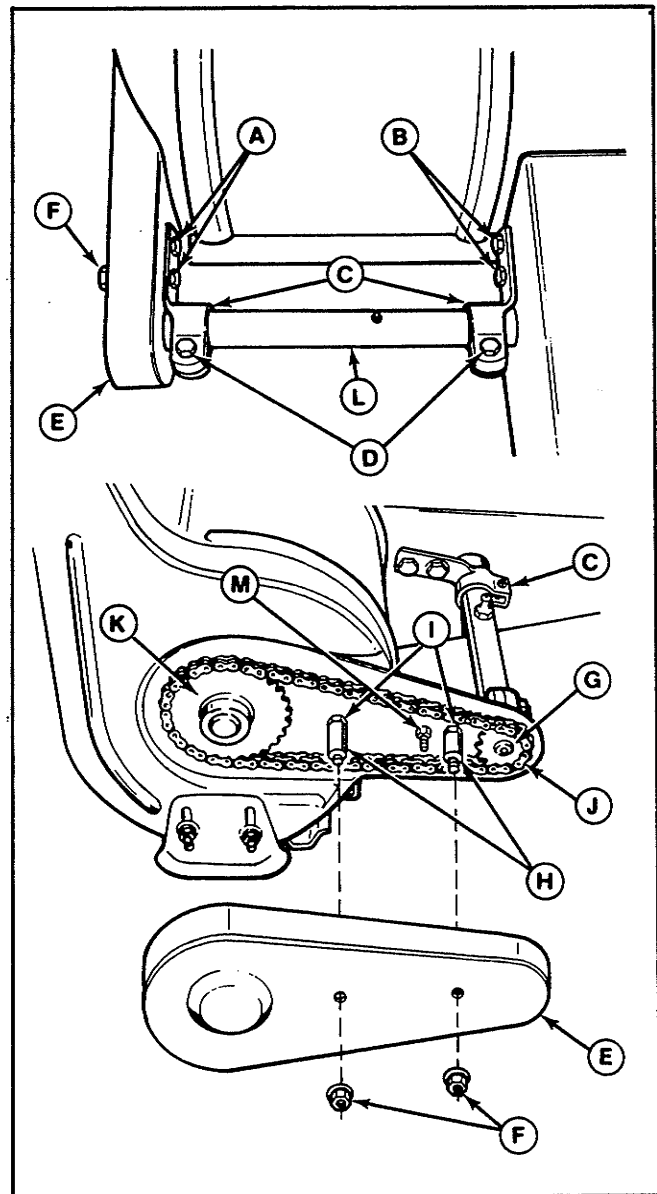

Figure 9. Drive Chain
1. Remove the chain guard (E, figure 9) by removing the two nuts (F).
3. There should be no slack in the chain and the sprockets (G and K) should be aligned. The drive shaft housing (L) should be parallel with the auger housing. To adjust, proceed as follows.
- a. Loosen the two screws (A) and two nuts (B). Loosen the screw on top of housing that secures pulley belt guide.
- b. Pull rearward on the drive shaft housing (L) until all slack is removed from chain. With drive shaft housing parallel to auger housing and sprockets aligned, retighten the two screws (A) and nuts (B). Be sure to hold nuts while tightening screws (A) and hold screws (inside housing) while tightening nuts (B). Torque to 40-50 ft. lbs.